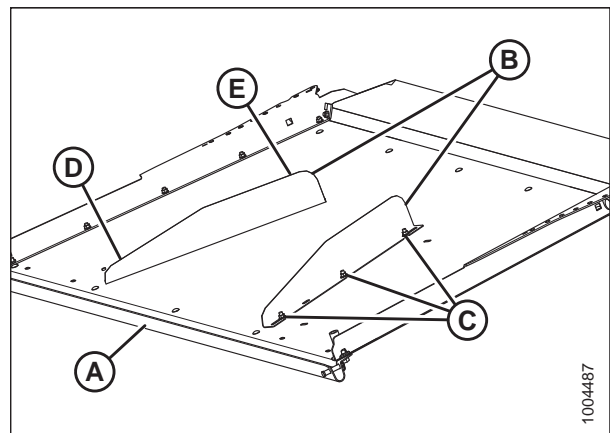

Figure 3.26: Center Deflectors
Orient deflectors (B) so that narrow end (D) is toward the front of the cover (A) and deep end (E) is toward the rear as shown in Figure 3.26, page 20.